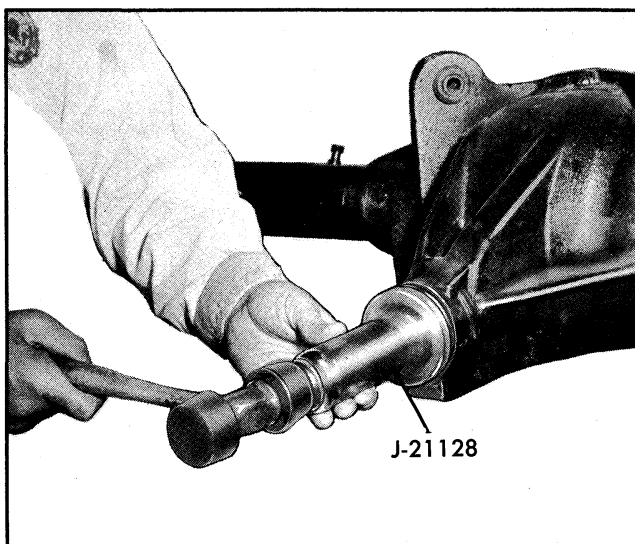

Fig. 4-9 Installing Pinion Oil Seal
9. Oil lip of new seal with clean engine oil. Coat outer diameter of seal case with suitable sealer. Install seal by tapping into place, using J-21128, (Fig. 4-9).